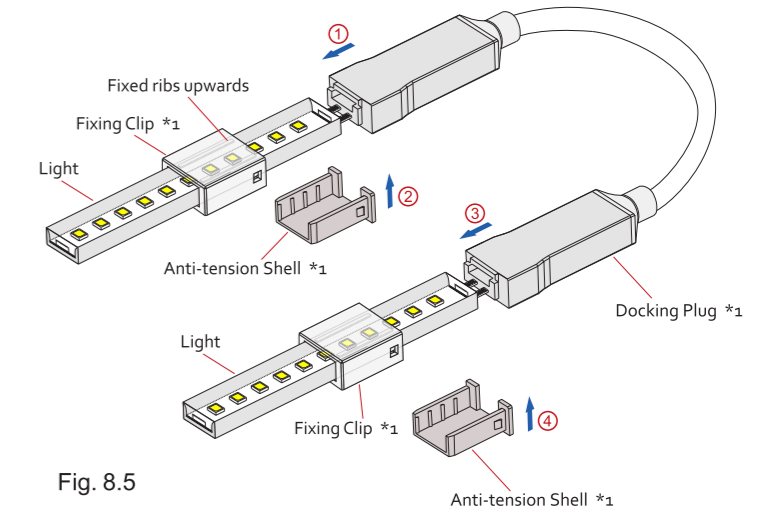

Fig. 8.5
- Fig. 8.5 — Pls doing the assembly according to ① ② ③ ④ ⑤ ⑥ ⑦ ⑧ steps, and make sure the fixing clip's two fixed ribs are upwards.